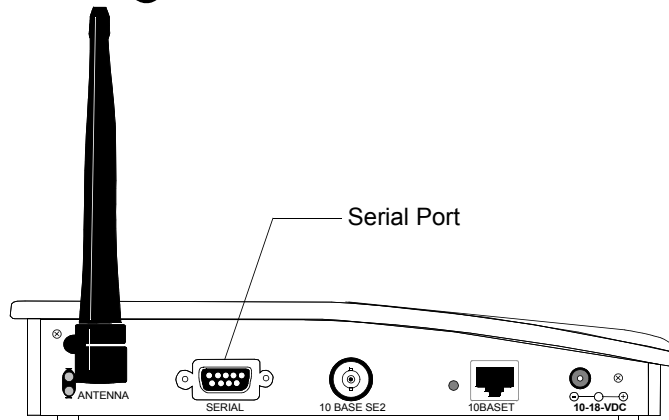

Figure 5-57 Rear Panel of Access Point
Step 3. Connect one end of the 9-Pin D Female - 9-Pin D Female cable to the 9-pin D Male Serial Port connector on the configuring computer and the other end to the **Serial** port on the rear panel of the Access Point to be configured. See Figure 5-57.